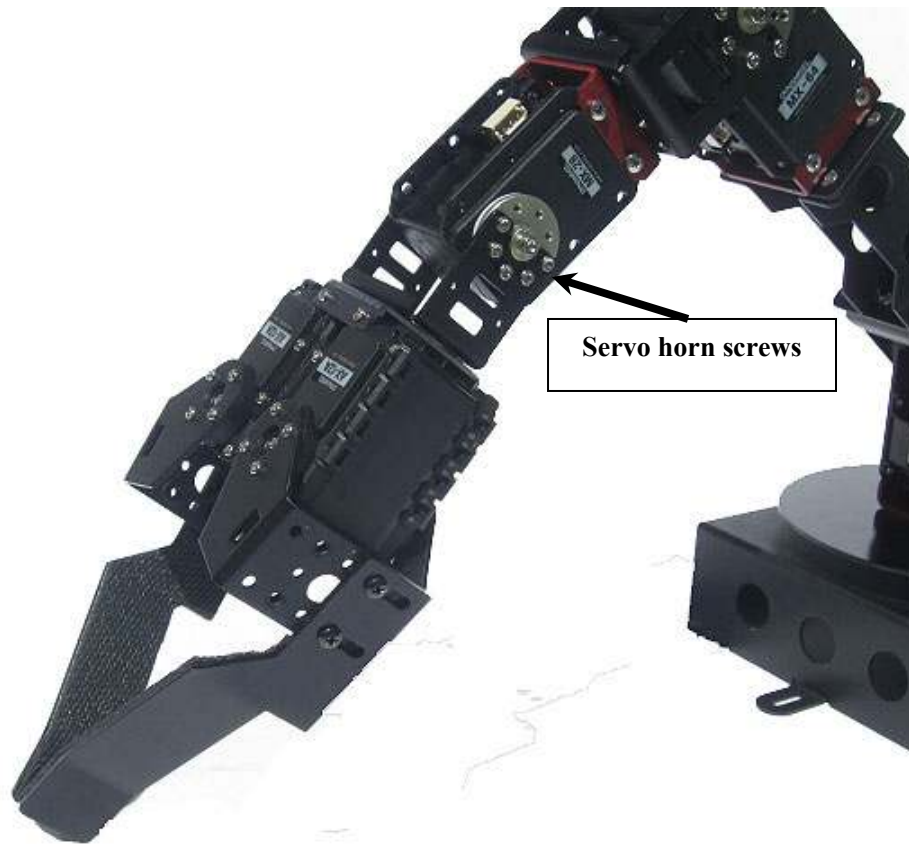

Figure 48
3. Using the servo horn screws, install the assembly from step #2 to the axis servo of the robotic arm assembly as shown in figure 48.